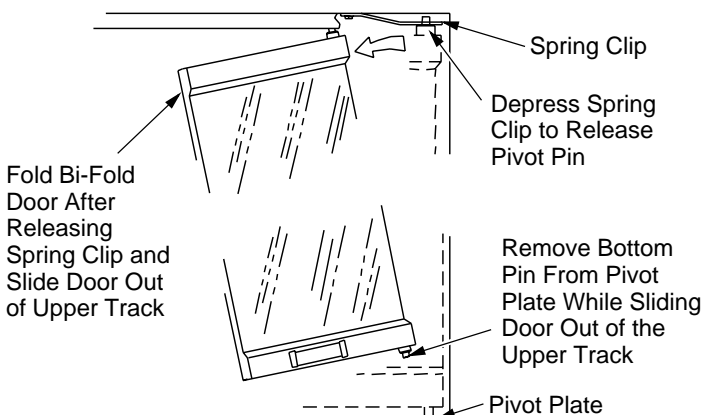

Figure 33 - Removing Glass Doors
2. Fully fold the frame assembly and slide the upper edge towards the center of the firebox opening until the guide pins are free of the frame rail (see Figure 33).